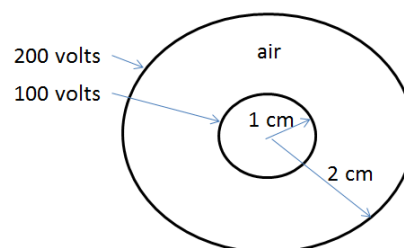

Figure Pre-2: Concentric metal shells geometry
**Question Pre-1.2:** Two concentric metal shells are shown in figure Pre-2: The inner shell has a radius of 1 cm and is at 100 volts, the outer shell has a radius of 2 cm and is at 200 volts. The region between the metal surfaces is charge free and air. Express Laplace's equation in spherical coordinates. Indicate which derivatives of the potential function will be zero and why they are zero. Solve the remaining differential equation and plot several equipotential lines for the region between the metal shells. Draw the electric field lines. **1 mark**